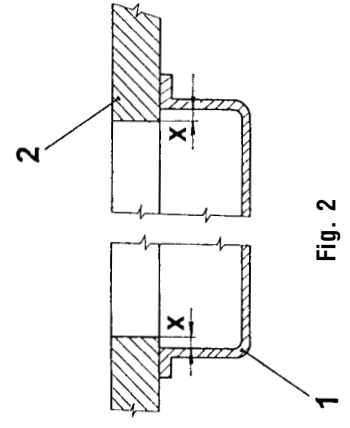

Fig. 2
### 5.1 Assembly of stand table top (Fig. 2, 3, 4, 5)
Put the rubber inserts for placing the machine head into the stand table top into the recess (2 and 3, Fig. 5). For better fastening, we recommend to stick on the inserts. When mounting the tray (1, Fig. 2) be sure in maintaining the distance "X" on the whole perimeter of the tray between the interior of the tray and the perimeter of the stand table top recesss (2).